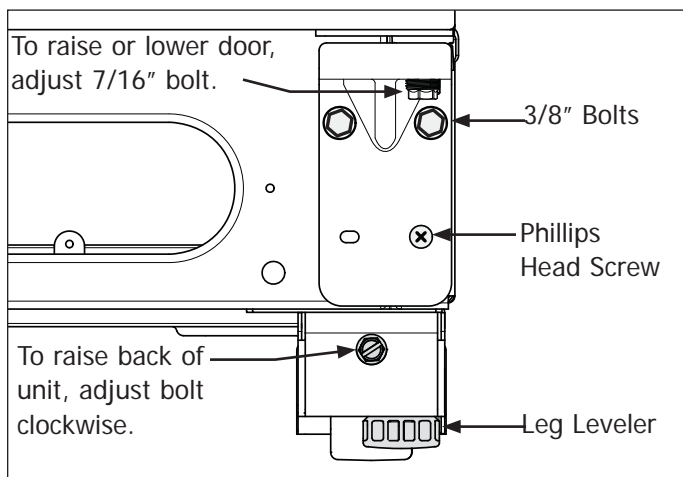

Figure 2-27.
12. Trim Kit Leveling (See Figure 2-27) (Single and Dual Installations)
13. Hinge Adjustment (See Figure 2-27) (Single and Dual Installations)